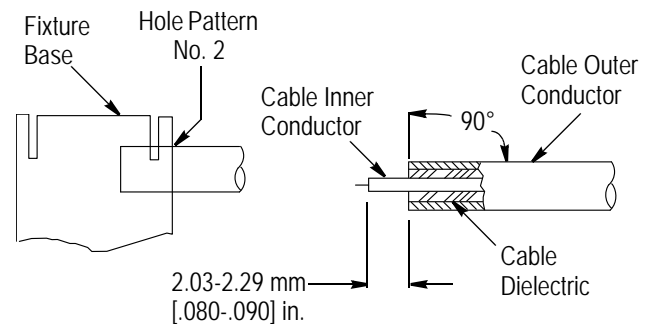

Figure 3
5. Complete trimming of the cable inner conductor to the dimension given in Figure 3.